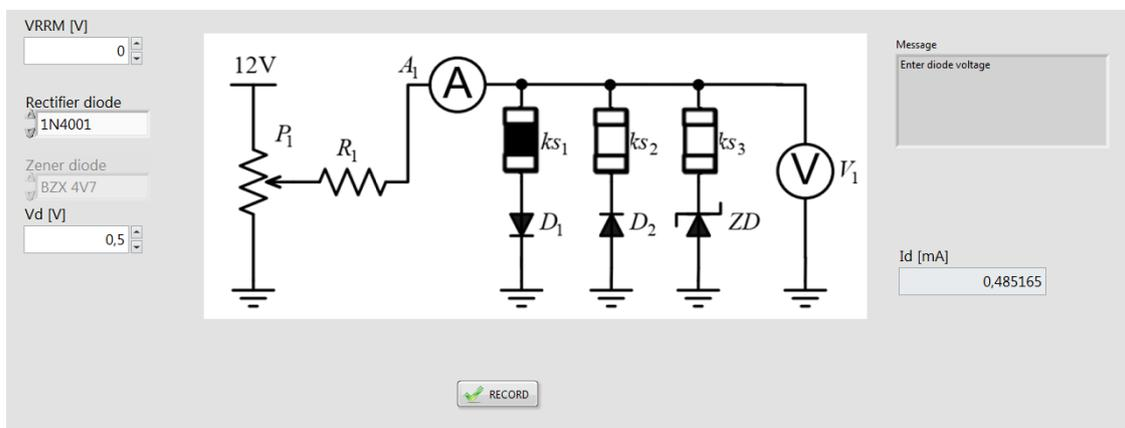

Figure 4.4: Simulation of current measurement of current-voltage characteristic for forward biased diode
- For each value of voltage V_d , by pressing RECORD, the value of current I_d is obtained. The obtained results for the current I_d will be read on the screen fig. 4.4 and will be entered in table 4.2.